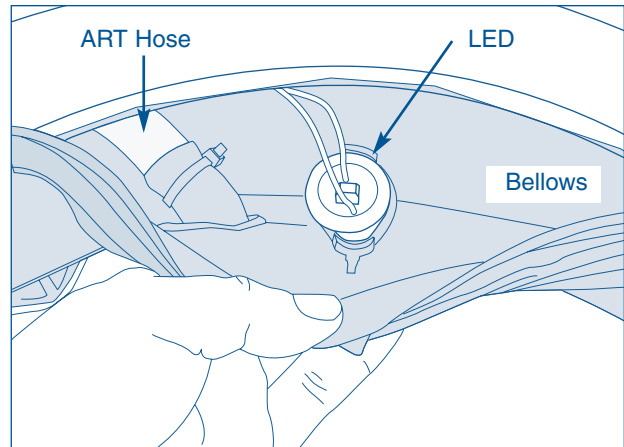

Figure 4-20.
3. Pull the bellows down to access the LED assembly and extract from the bellows. (See Figure 4-20)